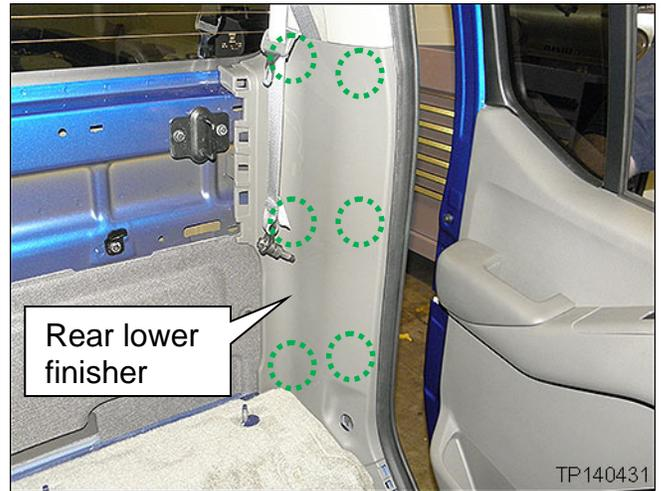

Figure 22
- Finisher is held on with 6 clips, approximate location is shown in Figure 22.